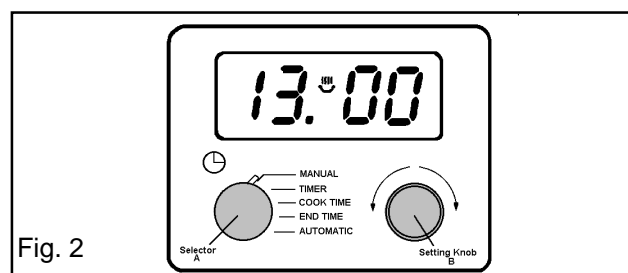

Fig. 2
Turn and hold selector (A) to clock (🕒). Then turn setting knob (B) until the correct time of day is shown, e.g. 13.00 (1 p.m.). Release both knobs, the display will stop flashing and the cookpot (🍲) symbol will glow. Fig. 2. Selector (A) will return to 'Manual'.